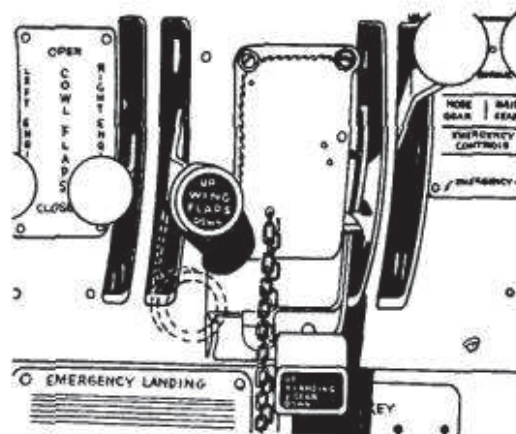

Figure 57 — Wing Flaps and Landing Gear Levers
a. Pull landing gear lever "UP" to retract gear upon advice from pilot. When indicator shows full retraction, return lever to "NEUTRAL." (See figure 57.)
b. Pull wing flap lever "UP" to retract wing flaps after obtaining 500-foot altitude. When indicator shows full retraction, return lever to "NEUTRAL." Wing flaps should be retracted before reaching 185 mph. (See figure 57.)